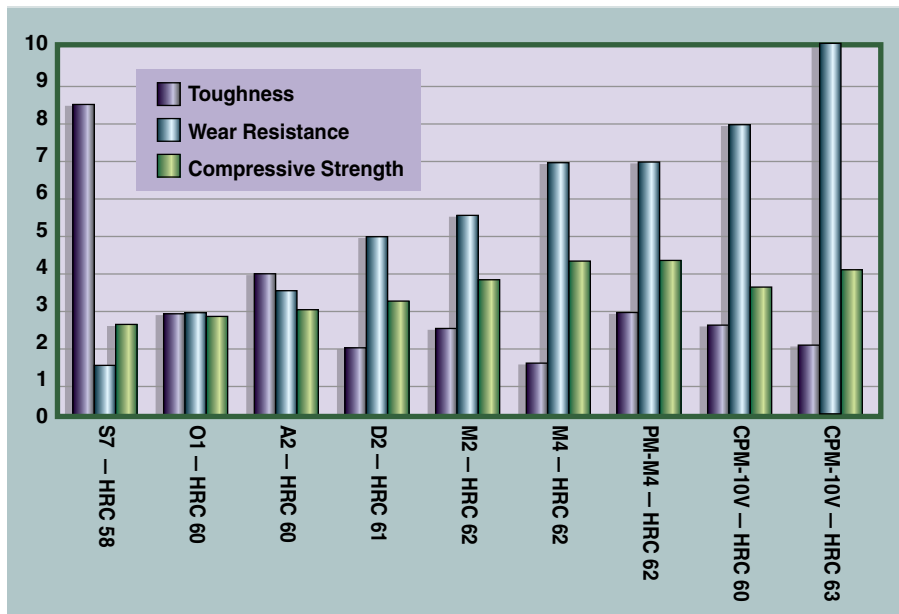

Figure 2
Figure 2 compares the three tool steel characteristics necessary for stamping applications: toughness, wear resistance, and compressive strength. While some
Toughness. If toughness were the only factor to consider in choosing a tool steel, S7 would be the obvious choice (see Figure 2). Unfortunately, this is not the case. Tool steel toughness tends to decrease as alloy content increases. This increase in alloy content also demands a higher price.
Toughness also is affected by the manufacturing process of the steel. The particle metallurgy (PM) process can enhance the toughness of a given grade of tool steel over its conventional counterpart. Note the difference in toughness between M4 and PM-M4 in Figure 2.
Wear Resistance. Increased alloy content typically means increased wear resistance, as illustrated in Figure 2. Perforating coated materials places a high demand on abrasive resistance. High-speed steels such as M2 and PM-M4, as well as high-alloy grades such as CPM-10V, can provide the necessary wear resistance. These steels also serve as a good substrate for wear-resistant coatings.